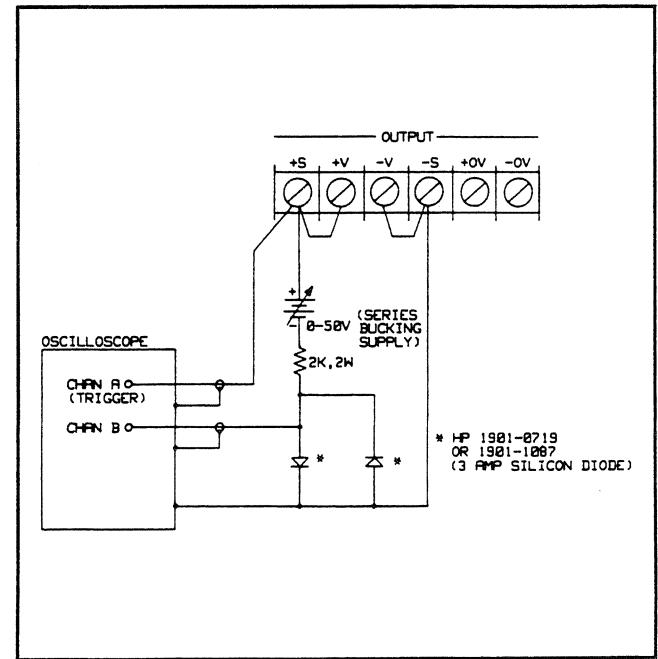

Figure 3-6. CV Up Programming Speed Test Setup
- a. Turn off the supply and connect the output to be tested as shown in Figure 3-6.
- j. Now observe Channel B on the oscilloscope while maintaining the trigger on Channel A as in step h. Note the series supply bucks out the Full Scale Output Voltage and that the waveform is clamped at approximately -0.6 V and rises to the top horizontal line when the output voltage is at full scale. The diodes (see Figure 3-6) prevent gross overload of Channel B (which is set at 50 mV division) allowing examination of the "tail" of the exponential waveform. The output voltage should be within 20 mV of its final settling value on the top horizontal line is less than 2 msec. for 40WLV/80WLV outputs and within 50 mV in less than 6 msec. for 40WHV/80WHV outputs.